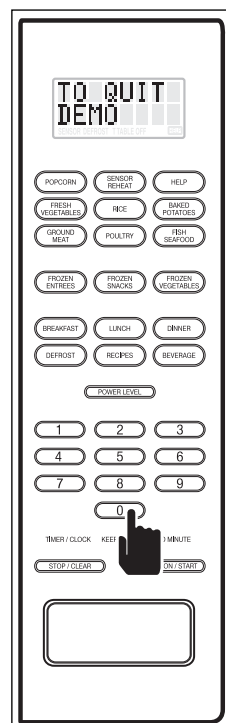

Figure 3-74.
4. Again, though not one of the options given on the display, Press and release the number 0 key and the display will flash “**TO QUIT DEMO - PRESS CLEAR**”. (See Figure 3-74)